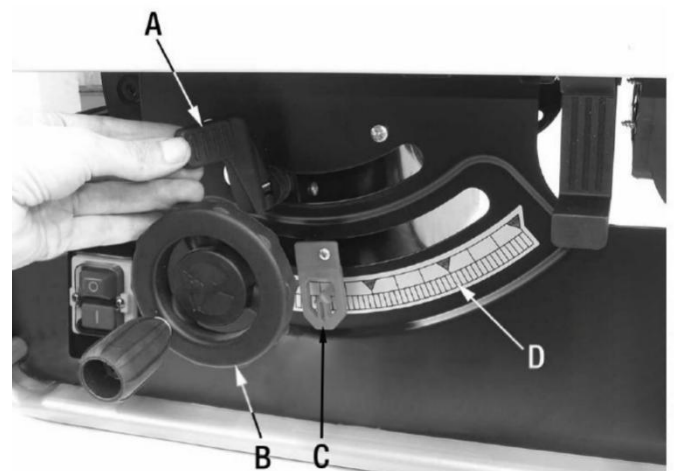

FIGURE 15
1. Turn the elevation handwheel (B) Fig.15 counterclockwise to raise the blade or clockwise to lower the blade.
1. Unlock the bevel angle lock/release lever (A) Fig.15 by pulling the lever all the way to the right.
2. Move the Blade height adjustment handwheel (B) to the right to adjust the blade bevel angle, use the Bevel tilt angle indicator (C) and angle scale as reference.
3. Once the desired bevel angle is achieved, lock the bevel angle/lock release lever (A) by pushing the lever all the way to the left.
2. Unlock the bevel angle lock/release lever (A) Fig.15 by pulling the lever all the way to the right. Move the Blade height adjustment handwheel (B) Fig.15 until the blade is set at a perfect 90° to the square. Lock the bevel angle lock/release lever.